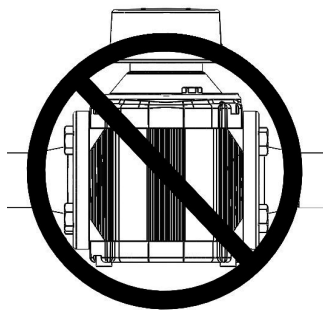

Figure 4. Side view
- 7) Ensure the meter orientation is correct. Impeller shafts must be horizontal [Figure 4].